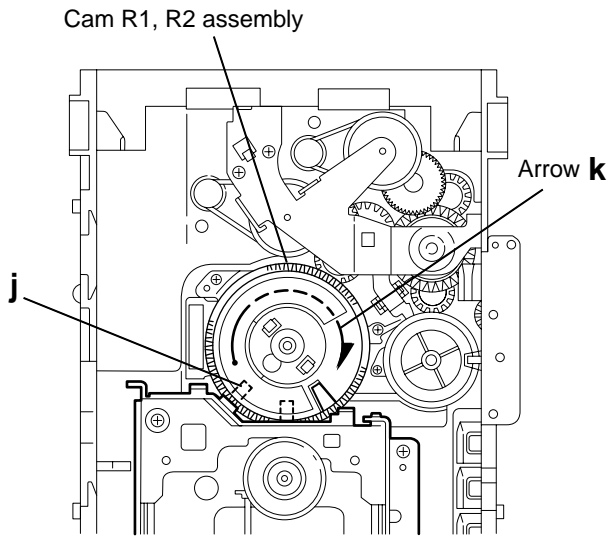

Fig.11
Removing the CD traverse mechanism (See Fig.11 and 12)
1. For dismantling only the CD traverse mechanism without removing the CD loading mechanism assembly, align the shaft **j** of the CD loading mechanism assembly to the position shown Fig.11 while turning the cam R1 and R2 assembly in the arrow direction **k** .